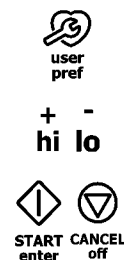

Figure 25: Clock 12 hour (L) or 24 hour (R) display
1. Press **user pref** until the preset **12hr clock display** mode appears (Figure 25).